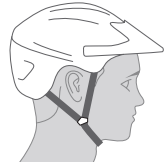

Fig. 1
1. Always wear a cycling helmet [Fig. 1] which meets the latest certification standards and is appropriate for the type of riding you do. Always follow the helmet manufacturer's instructions for fit, use and care of your helmet. Most serious bicycle injuries involve head injuries which might have been avoided if the rider had worn an appropriate helmet.